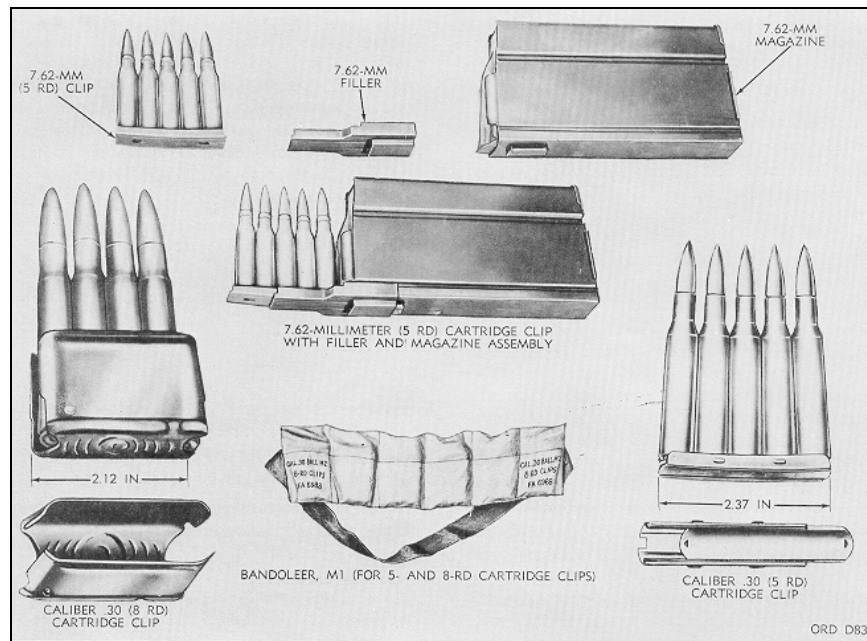

Figure 15. Cartridges, links, belt, cartons, bandoleers and ammunition box
**Identification Markings.** Each outer shipping container and all inner containers are fully marked to identify the ammunition. Wire-bound boxes are marked in black and ammunition boxes are painted olive drab, with markings in yellow. When linked ammunition is functionally packed, component lot numbers are replaced by a functional lot number. Typical packing and identification markings are illustrated in figures 15 through 17.